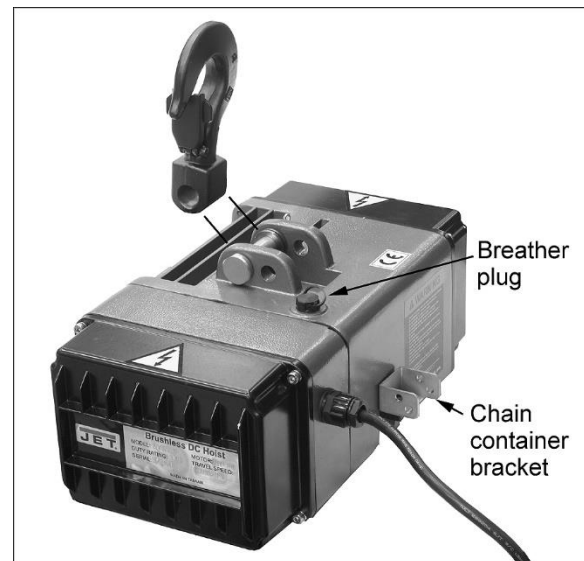

Figure 9-1 (BLVS050 shown)
Attach the top hook with the provided lock bolt, hex nut and cotter pin (Figure 9-1).
Your hoist has been shipped with oil included in the gearbox. Before operating, verify the oil level by removing the fill plug on top of the hoist, shown in Figure 9-1. The oil level should be just below the edge of the hole.
IMPORTANT: Before operating hoist, pull out the rubber breather plug from the top fill plug (Figure 9-1). Reinsert this plug if hoist is to be transported or placed in storage.
3. Mount chain container to bracket on side of hoist (Figures 9-1 and 9-4), using the two socket head bolts and lock washers.